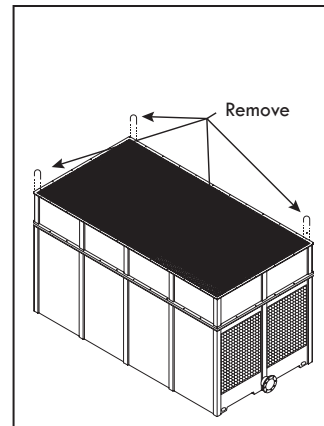

Figure A-77: Removing U-bolts from the Lower Body section for a modular tower (RTGM-D & RTGM-E)
- K. **Only for RTGM-D & RTGM-E models:** Remove U-bolts from Lower Body section before installing the next section (see Figure A-77).